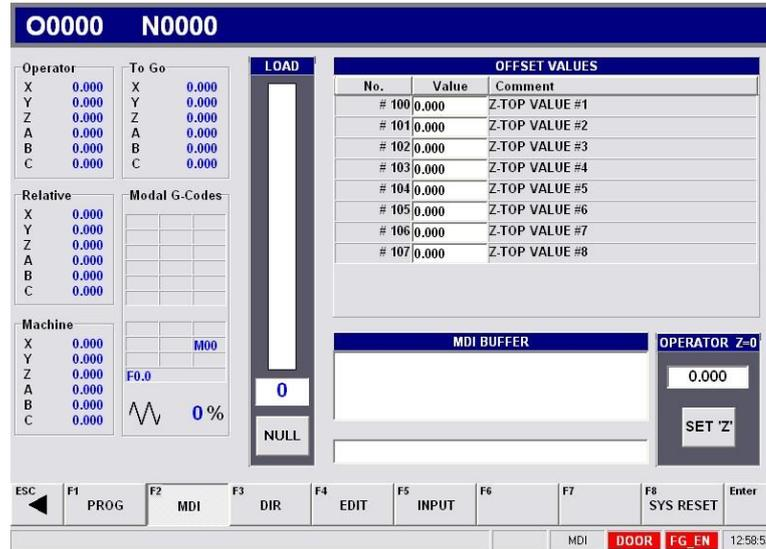

Figure 46 - MDI mode screen
2. Select the “MDI” tab button. See (Figure 46 - MDI mode screen).